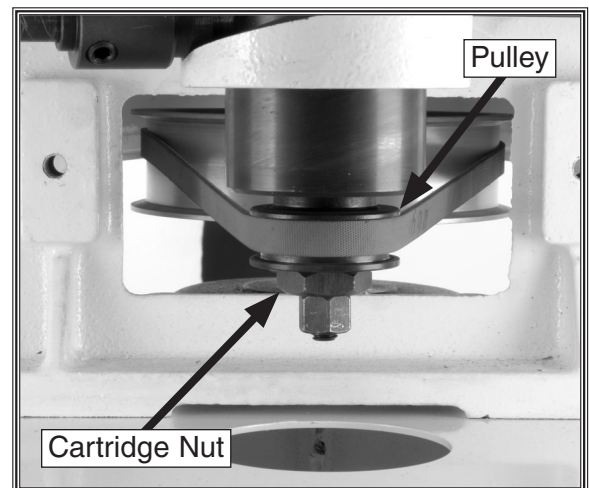

Figure 41. Location of cartridge nut and pulley.
6. Remove the cartridge nut on the bottom of the spindle, as shown in **Figure 41**, and slide the pulley off.